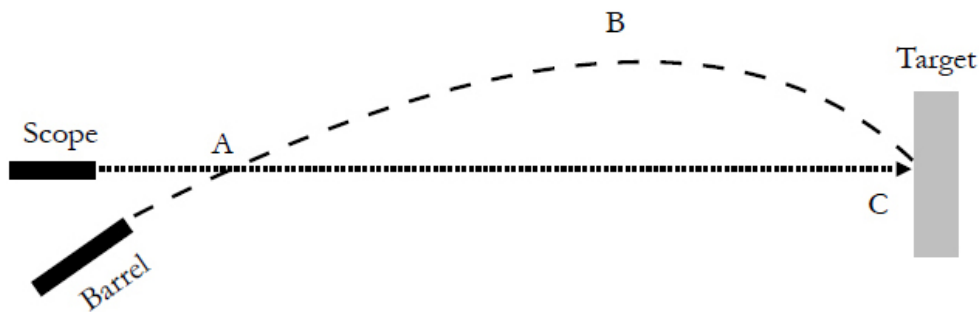

Figure 10.2-4
When looking through your scope, the line of sight is the straight line you are looking along from your scope to the target. See Figure 10.2-4. When the bullet leaves the barrel, it starts off below the line of sight and “rises” up to meet the line of sight. If the intended target is past the rifle's zero distance, then the bullet passes through the line of sight (A), travels above the line of sight (B), and then drops back down to meet the line of sight at the target (C).